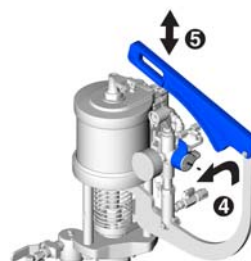

FIG. 27
5. Turn the catalyst pump pressure relief/recirculation valve to the dispense position. See FIG. 27.
6. Bring catalyst pump fluid outlet line to dispensing pressure (see FIG. 27):